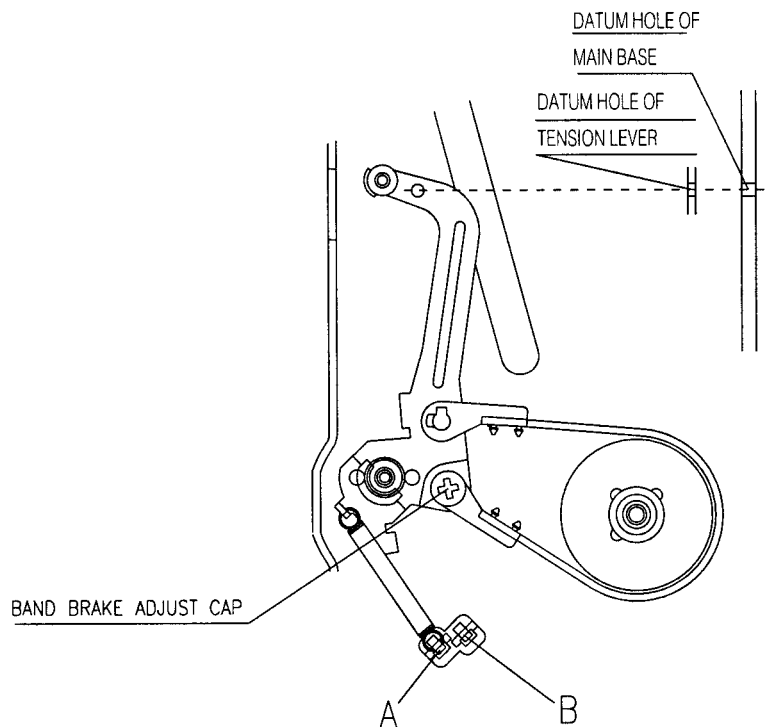

Fig.4-7 TENSION POLE POSITION ADJUSTMENT
- If the measuring result is not within this specification, refer to the NOTE below or repeat "4-4 TENSION POLE POSITION ADJUSTMENT". (Fig. 4-7)